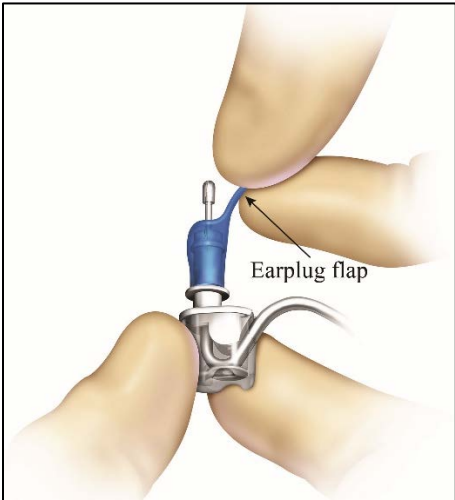

Figure 15. Earplug Removal
- d. Grasp the Earplug by the Earplug Flap and pull the Earplug straight off of the Earset (**Figure 15**). Take care not to accidentally pull the fill tip during removal. Discard the used Earplug. A new Earplug can now be inserted onto the Earset following the procedures in Steps 8a-8c.